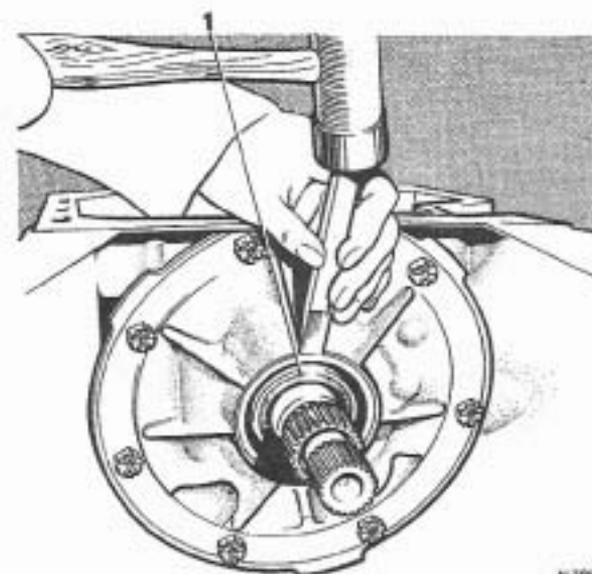

FIG. T144 REMOVING THE OIL PUMP SEAL
2. Carefully drive the point of a chisel under the lip of the seal then prise the seal out of the pump body (see Fig. T144).